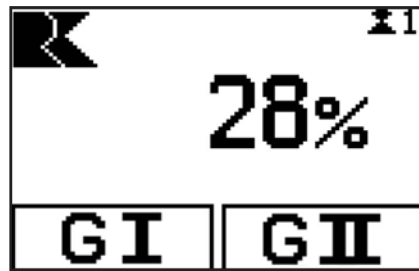

Figure 49 - 'Drive group management' mode
- Drive group management (Figure 49)
⇒ The display screen switches to 'Drive group management' mode (Figure 49).